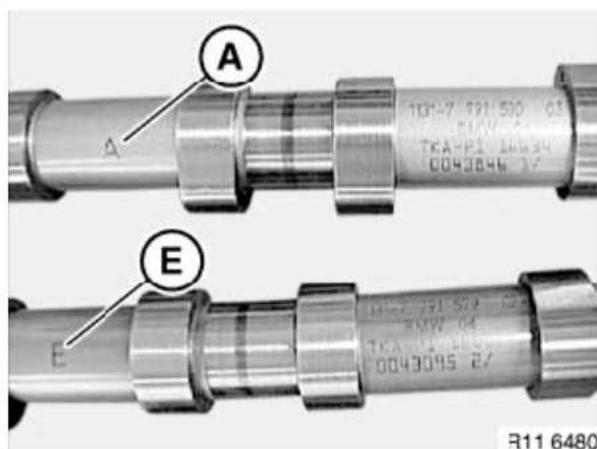

Figure 5-101
2. Identify the intake (**Figure 5-101, (E)**) and exhaust (**Figure 5-101, (A)**) camshafts.